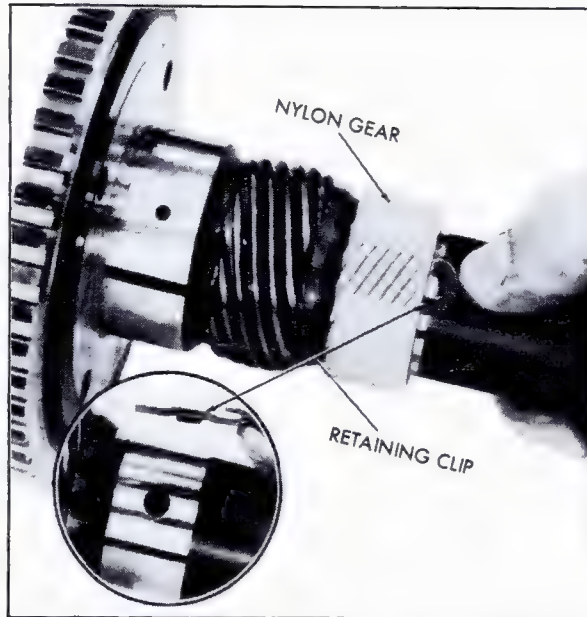

Fig. 7-93 Removing and Installing Nylon Speedometer Drive Gear
1. Depress retaining clip and slide gear off output shaft, Fig. 7-93.
2. Place retaining clip (square end toward flange of shaft) into hole in output shaft, Fig. 7-93. Align slot in speedometer drive gear with retaining clip and install gear so that cutouts or one of the flat sides of the gear are installed first.
clip and slide gear off output shaft, Fig. 7-93. Discard retaining clip.